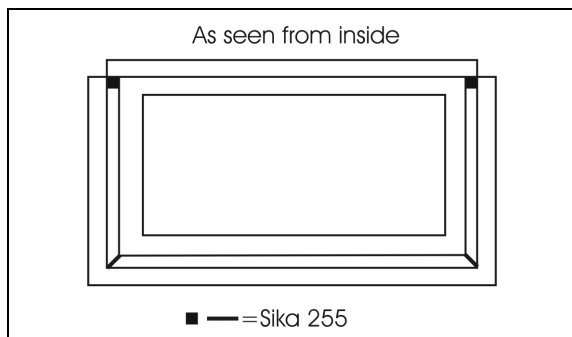

FIGURE 64: SIKI 255 APPLICATION
5. Apply Sika 255 in the upper and lower frame corner as per FIGURE 64.